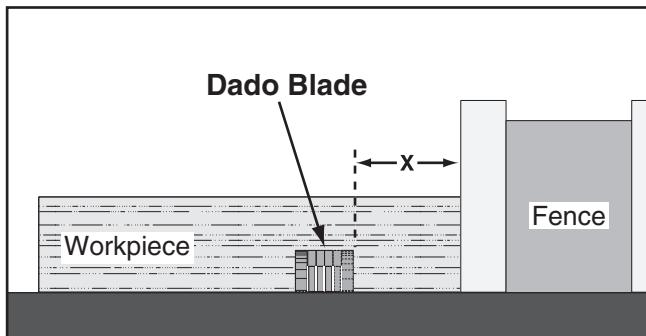

Figure 62. Example of a dado being cut with a dado blade.
3. Adjust distance between fence and inside edge of blade (see **Figure 62 on Page 41**), to dado length of a workpiece.